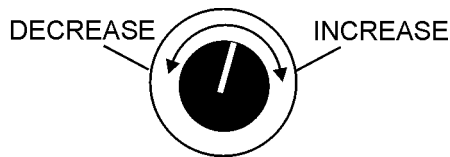

Figure 45. Voltage Adjust Control Knob
10. Use the voltage adjustment control knob (Figure 45) to increase or decrease the desired voltage.